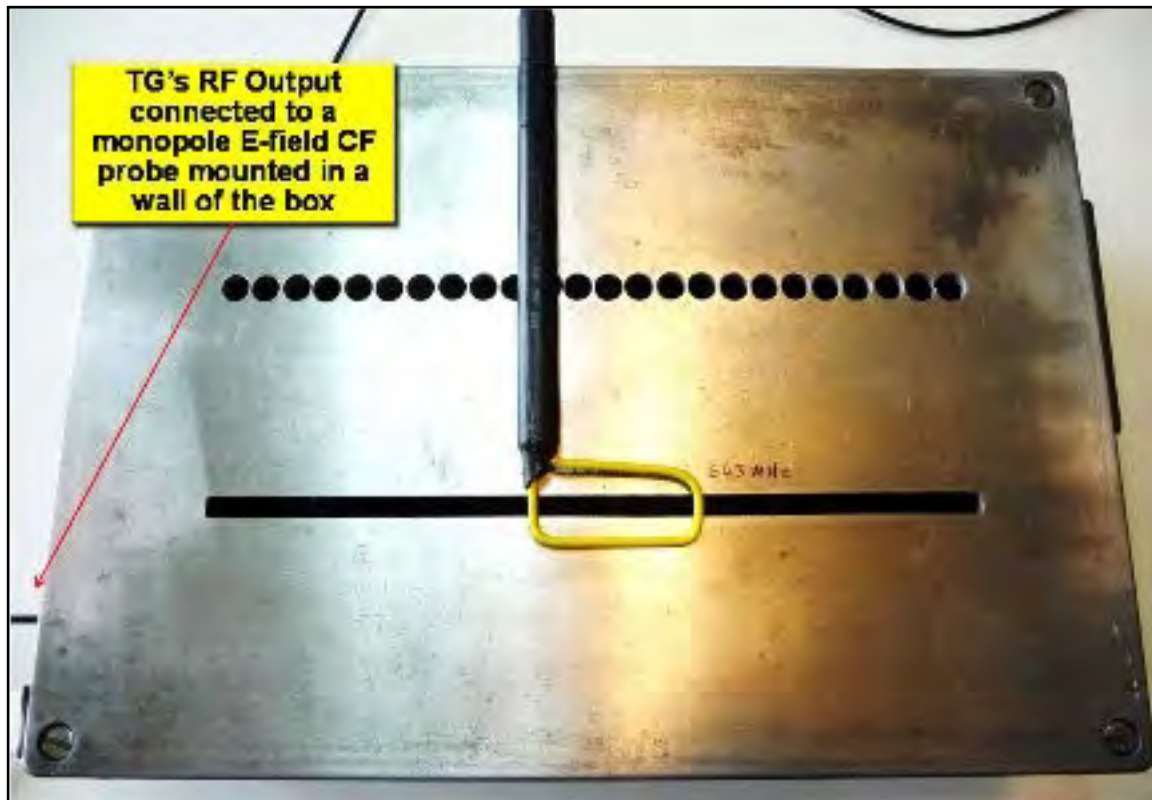

Figure 39 Looking for shielding imperfections with internal illumination- set-up (13)
Figures 39 and 40 show exactly the same procedure using one of my newer 'ferrite handled' probes (although set-up (12) for the yellow trace was not photographed). These show that - for this kind of CF probe test at least - the ordinary probes do just as well as those with 200mm ferrite tubes.